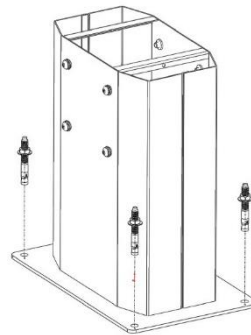

Figure 7 - Anchor Pedestal
6. Secure pedestal to concrete using the four wedge anchors provided and install them at least 2.25 inches into the concrete with a torque setting of 780±10 in-lbs (90±10 N-m) (Figure 7).